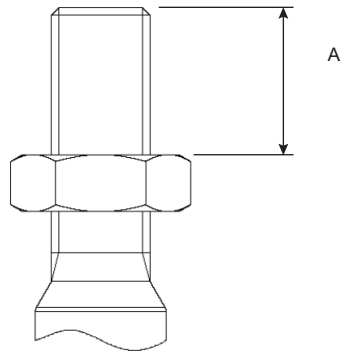

Fig. 4 Thread Engagement
- Set the valve stem lock nut at the correct Thread Engagement dimension "A" (Fig. 4 and Tables 3 – 5) for the relevant valve and actuator combination.